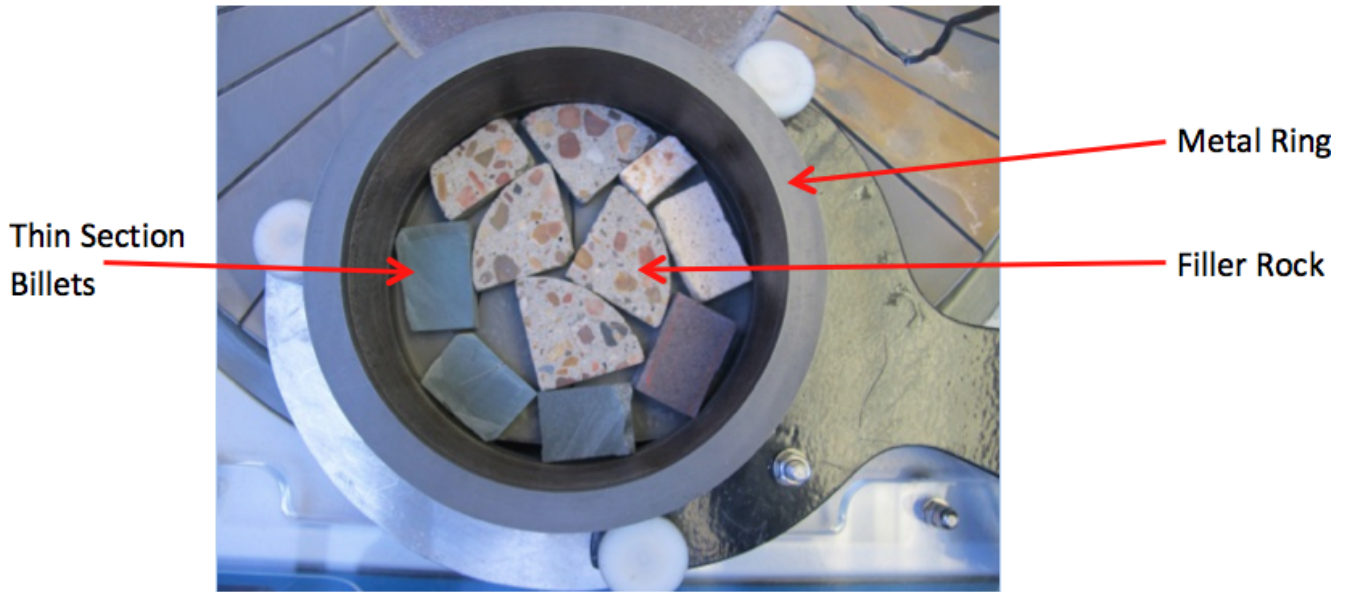

*Figure 1*
2. Make a sample tray by cutting a wypall (heavy duty paper towel) in half. Place it on a metal tray and draw a grid on it. Write the numbers assigned to the billets on the grid (Fig. 1).